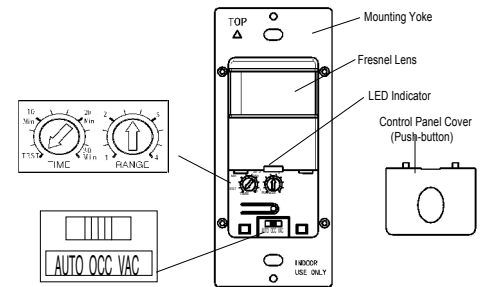

Figure 4
6. Locate the adjustment knobs on the control panel to perform test and adjustment. (Illustrated as Figure 4.)